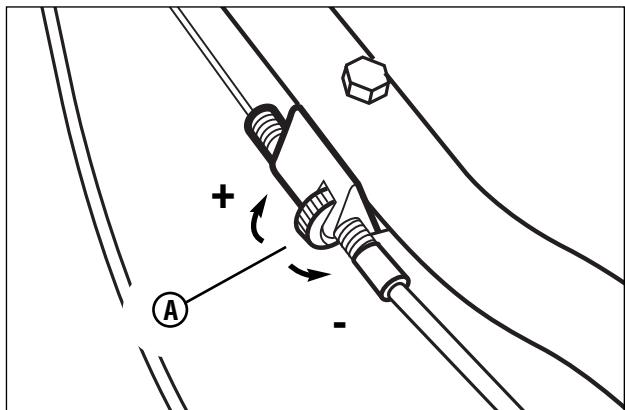

Figure 20: Adjusting the transmission spring tension
- b. To increase (+) the extended spring length, rotate the thumb wheel (A, **Figure 20**) upwards (counter-clockwise, from operator's perspective).